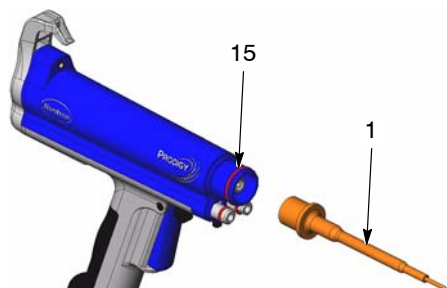

Figure 25 Removing the Resistor Holder
6. See Figure 25. Unscrew the resistor holder (1) from the multiplier (15).
4. See Figure 25. Screw the resistor holder onto the multiplier.